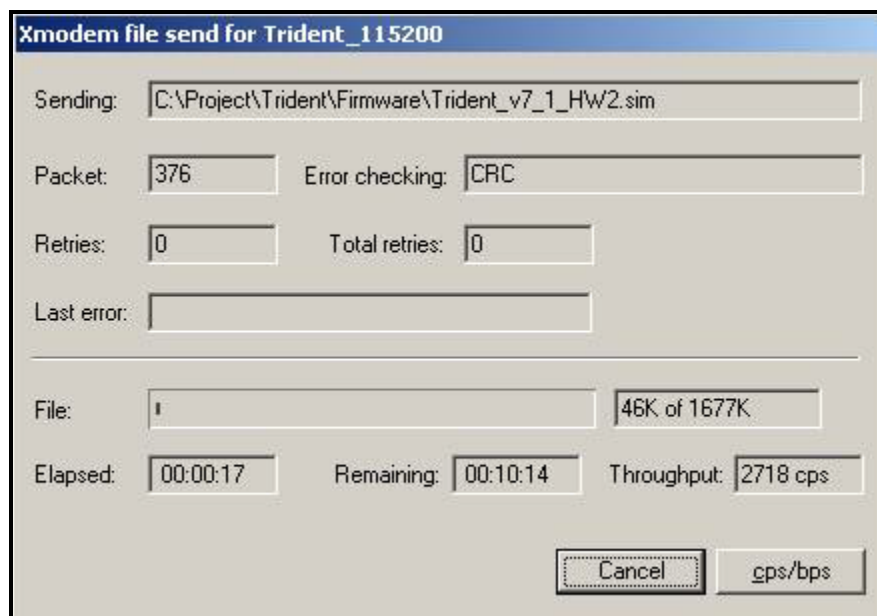
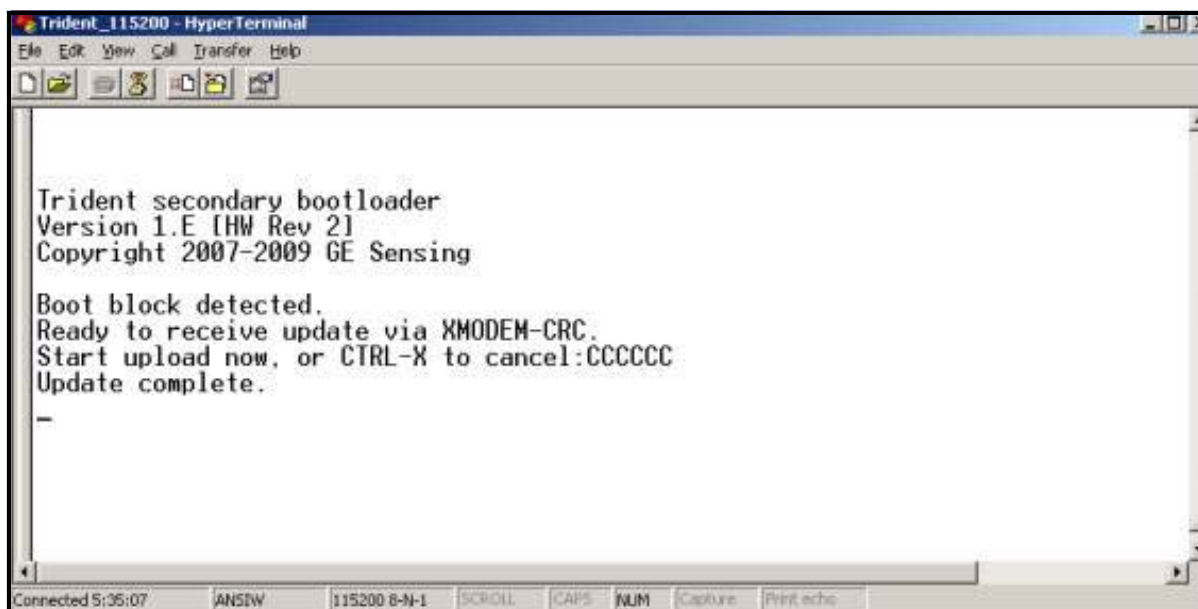

Figure 50: Sentinel LCT4 Transfer Status Window
Figure 51: PC Transfer Status Window
4. In Hyperterminal, select *Transfer*, and then *Send File*. (The protocol should be Xmodem.) Use *Browse* to locate the file, which will have a .cod extension. Double click on this file and click the *Send* button. The screens on the **Sentinel LCT4** (Figure 50) and on Hyperterminal (Figure 51) should both display the status of the transfer.